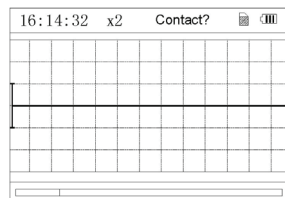

Figure 3-9
2) During measurement, if the measured part and metal electrodes loosely contact, the device will prompt "Contact?", as shown in Figure 3-9. If there isn't signal, it will prompt "No signal". The user can press "Return" button to exit from the measurement.